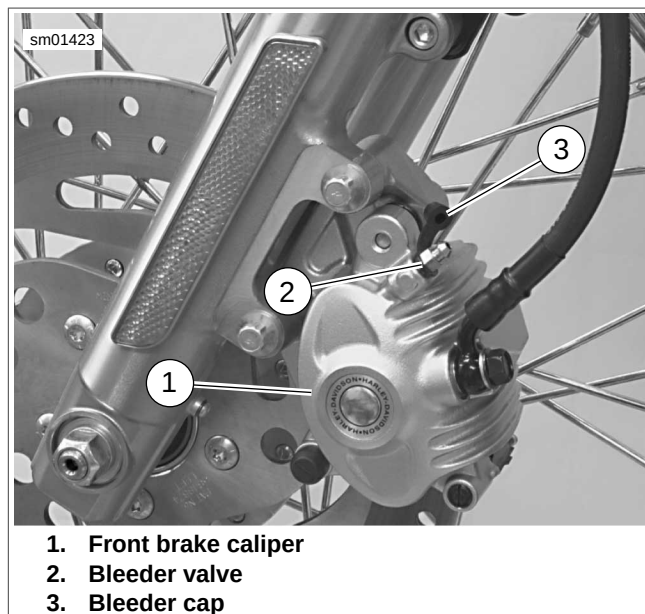
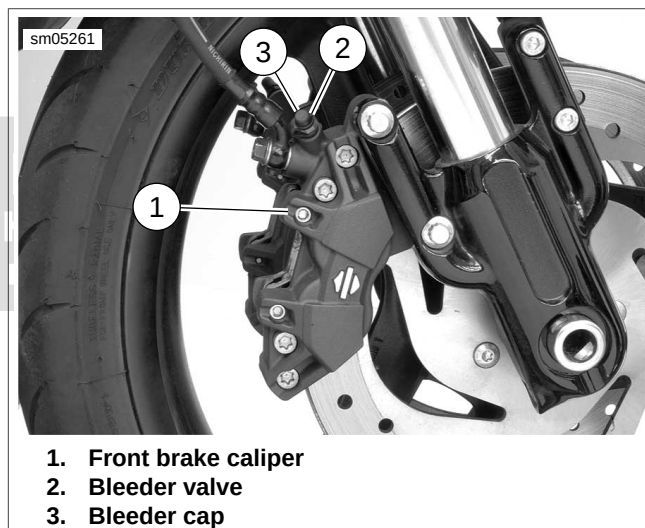

Figure 1-12. Front Brake Caliper: XL Models
Figure 1-13. Front Caliper Assembly: XR Models
4. See Figure 1-12 or Figure 1-13. Remove bleeder cap (3) from bleeder valve (2) on front caliper (1).
6. Squeeze and hold brake lever to build up hydraulic pressure. See Figure 1-12. Open bleeder valve (2) about 1/2-turn. Brake fluid will flow from bleeder valve through tubing. Observe fluid flowing through tubing. Check for air bubbles.
9. Final tighten bleeder valve to 35-61 **in-lbs** (4.0-6.9 Nm). Remove plastic tubing and install bleeder cap (3).